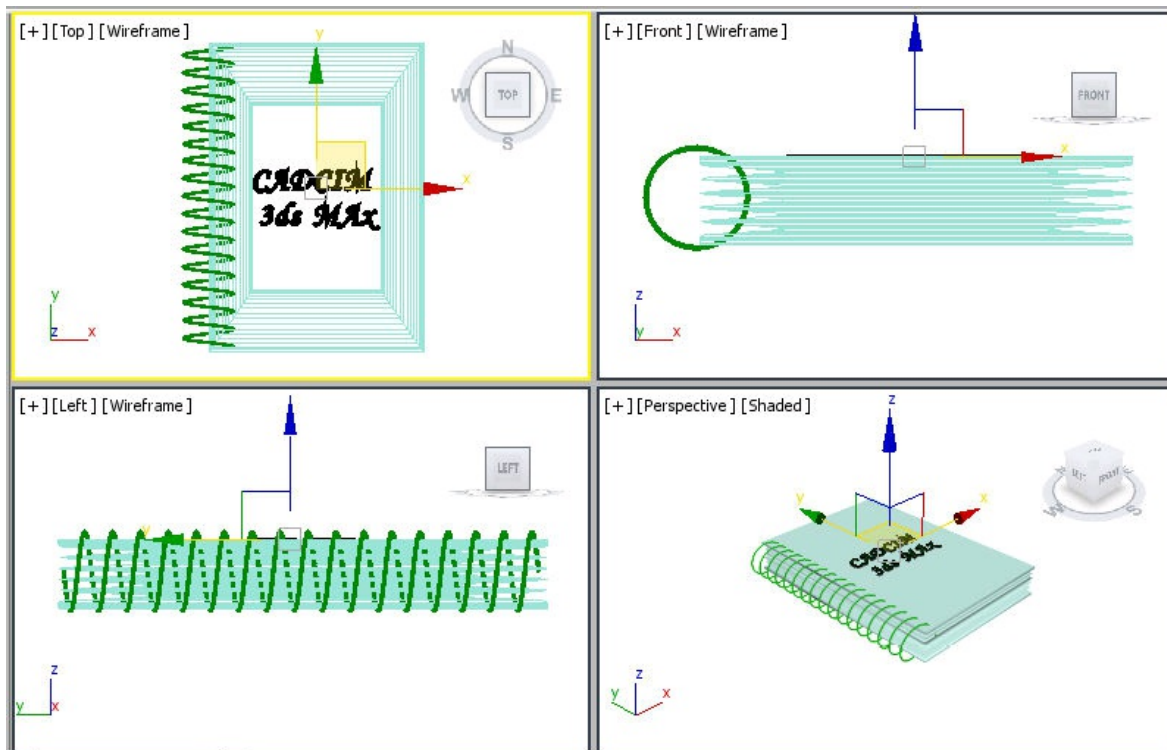

Figure 5-72 Alignment of text01 on book in viewports
5. Choose the **Select and Move** tool and align *text01* in viewports, refer to Figure 5-72.